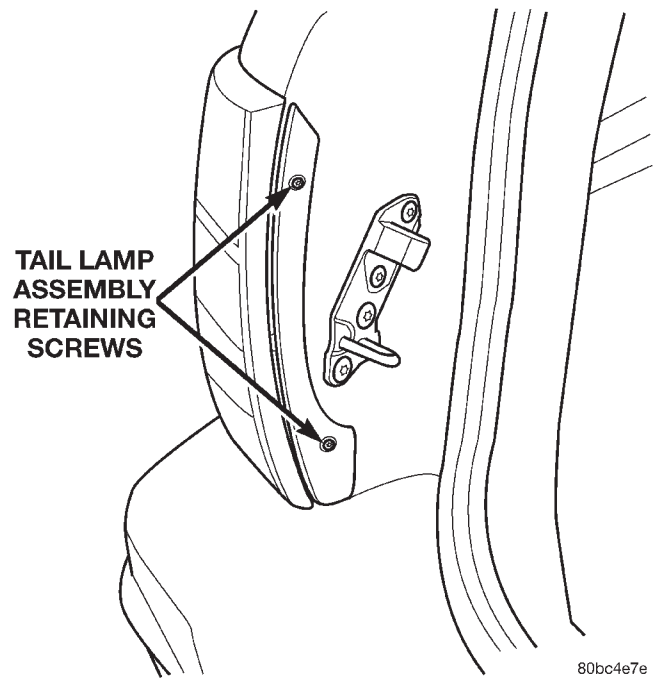

Fig. 21 Tail Lamp Retaining Screws
(3) Verify lamp operation.
(4) Position the tail lamp, trim panel and install the retaining screws (Fig. 21).